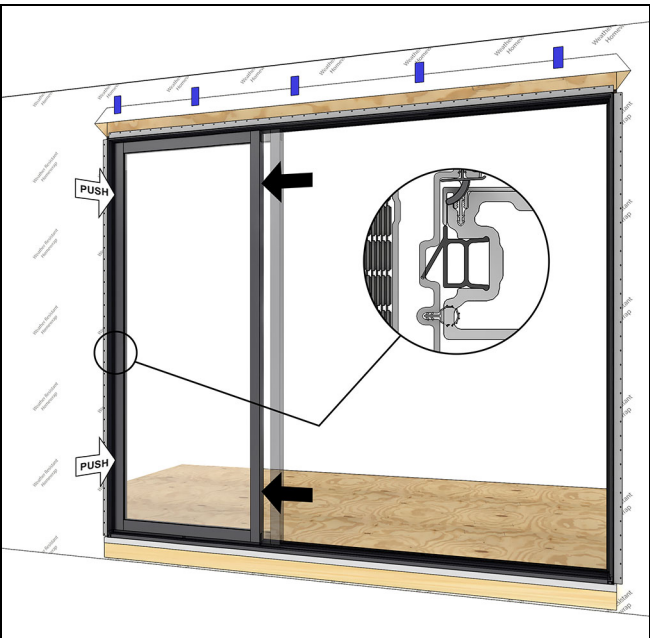

Figure 82
2. Slide the panel over to the jamb. Press on the stile to make sure the panel retainer is still engaged. Check for an even reveal, approximately 5/32" (4). See Figure 82.